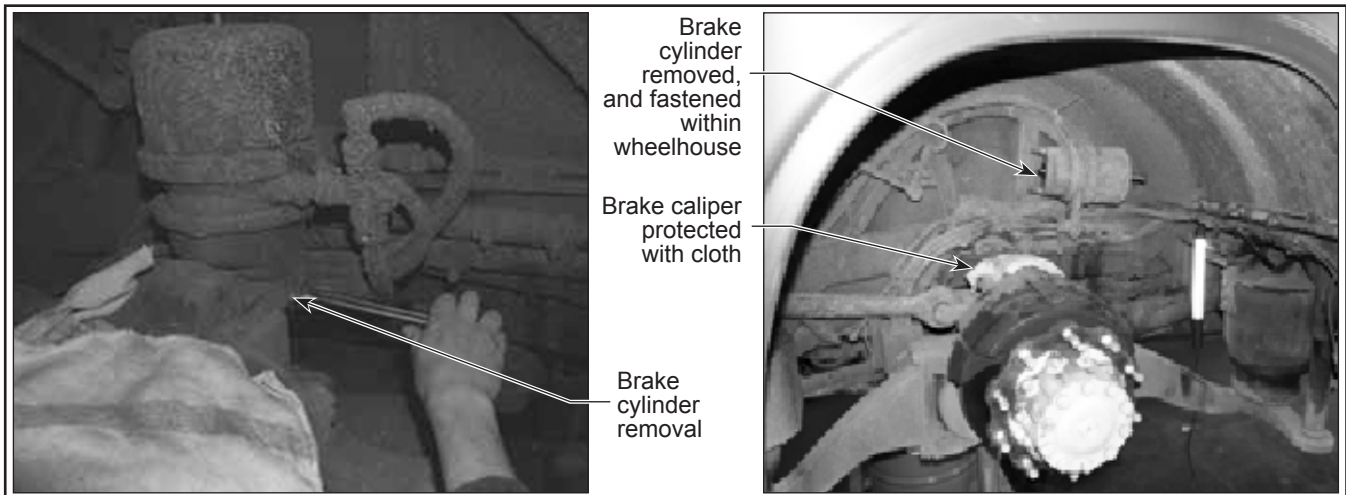

Figure 4 - Brake Cylinder Removal
- 2.16. Loosen the screws on the brake cylinder and remove the brake cylinder carrier plate. Loosen the locknuts and remove the brake cylinder. See Figure 4.
2.17. Fix the brake cylinder within the wheelhouse with a tie wrap, wire, or rope, and cover its opening. Protect the mounting face of the brake caliper with an adequate cover or cloth. See Figure 4.